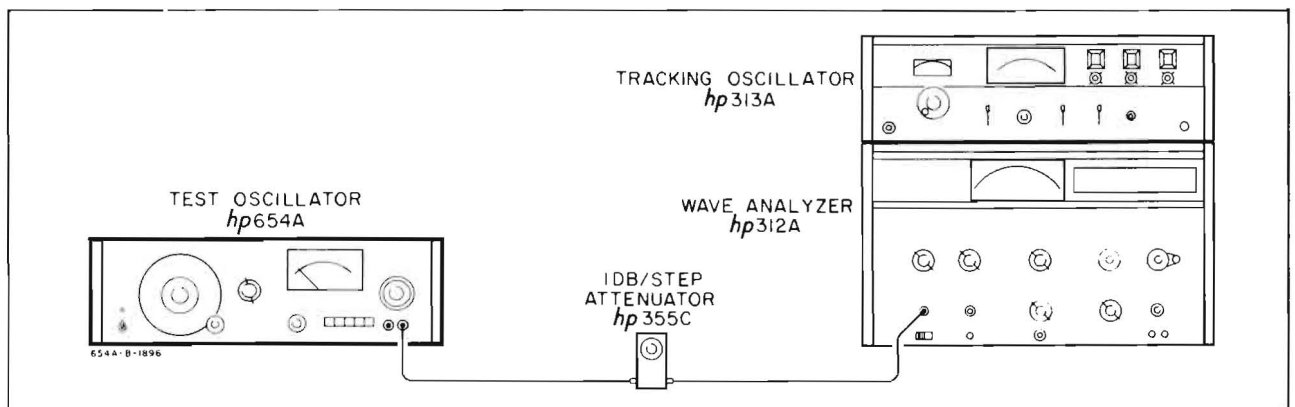

Figure 5-5. Meter Tracking Accuracy Check
- a. Connect the equipment as shown in Figure 5-5. Use an attenuator with known accuracy at 10kHz, and 10MHz.